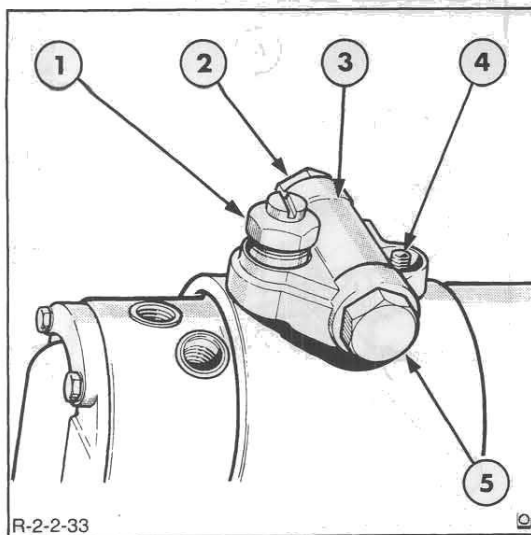

Figure 34
- (v) Position the advance device on the pump housing ensuring that the cam advance screw engages into the piston. Screw the head locating fitting into the hydraulic head, Figure 34, and the cap nut and washer onto the advance device housing stud. Tighten the nut and fitting to the specified torque. Tighten the two head locking screws to the specified torque, see 'Specifications' – Chapter 8. Ensure that the drive hub rotates freely; if not, disassemble to find the cause.